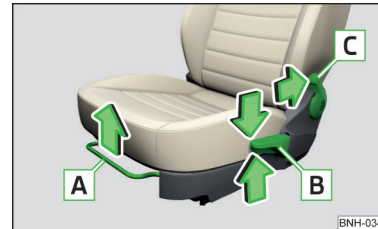

Fig. 51
#### Control elements at the seat » Fig. 51
- Pull lever **A** » Fig. 51 (in the centre) in the direction of arrow and push the seat in the required direction.
- Again push or pull the lever **B** » Fig. 51 in the direction of one of the arrows.
- Pull the lever **C** » Fig. 51 in direction of arrow and with your back set the desired inclination of the seat back.